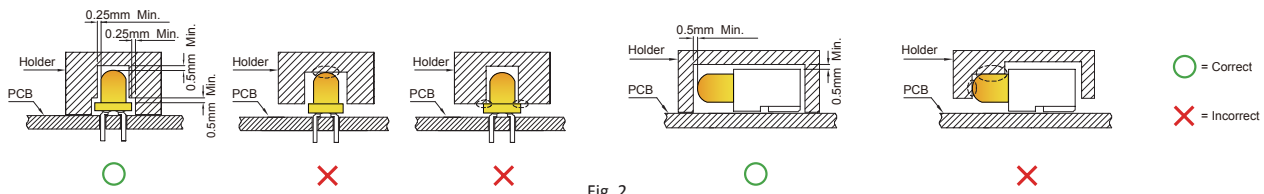

Fig. 2
- During soldering, component covers and holders should leave enough clearance to avoid any stress applied to the LED. Refer to below diagram (Fig. 2) for examples of proper method.